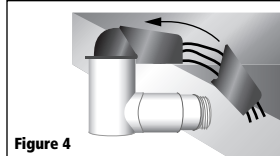

Figure 4
7. Slip Terminal Cover over wires and snap onto Switch housing (**Figure 4**). Complete wiring connections following wiring diagram.